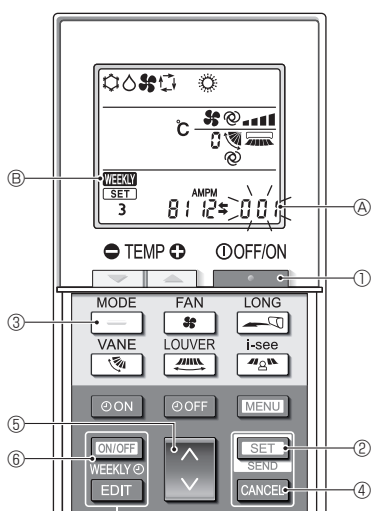

Fig. 4-9
- Press the **MENU** button ②.
4.9.8. How to disable Auto mode operation (Fig. 4-9)
- Press the **STOP** button ① to stop the air conditioner.
- If the weekly timer is enabled, press the **ON/OFF WEEKLY** button ⑥ to disable the timer. (**WEEKLY** ⑥ disappears.)
- Press the **SET** button ② for 5 seconds.
- The unit enters the function setting mode. (The group model setting number ① blinks.)
- Press the **UP** button ④.
- Completing the settings (Fig. 4-9)